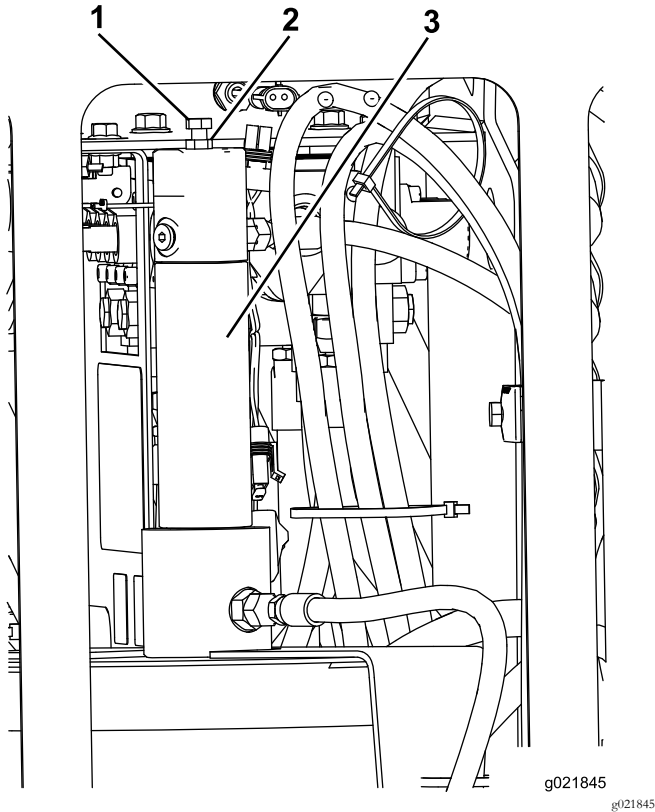

Figure 34
1. Loosen the jam nut on the adjustment bolt located on top of the TJC-applicator piston (Figure 34).